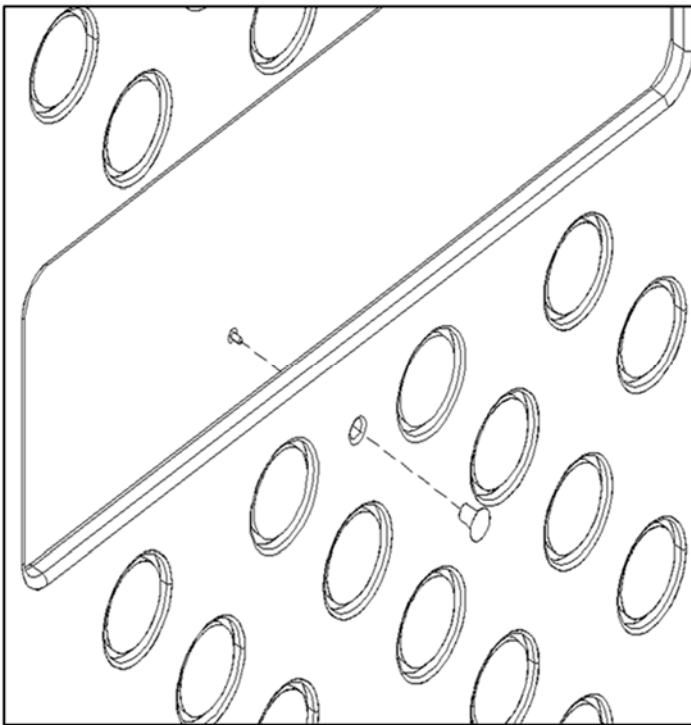

Fig 1 – Attach knob
- Step 1.** Attach the knob on the inside face of the panel (the side with no logo), through the predrilled hole located just below and to the center of the window opening with the pan head screw. (see fig 1).